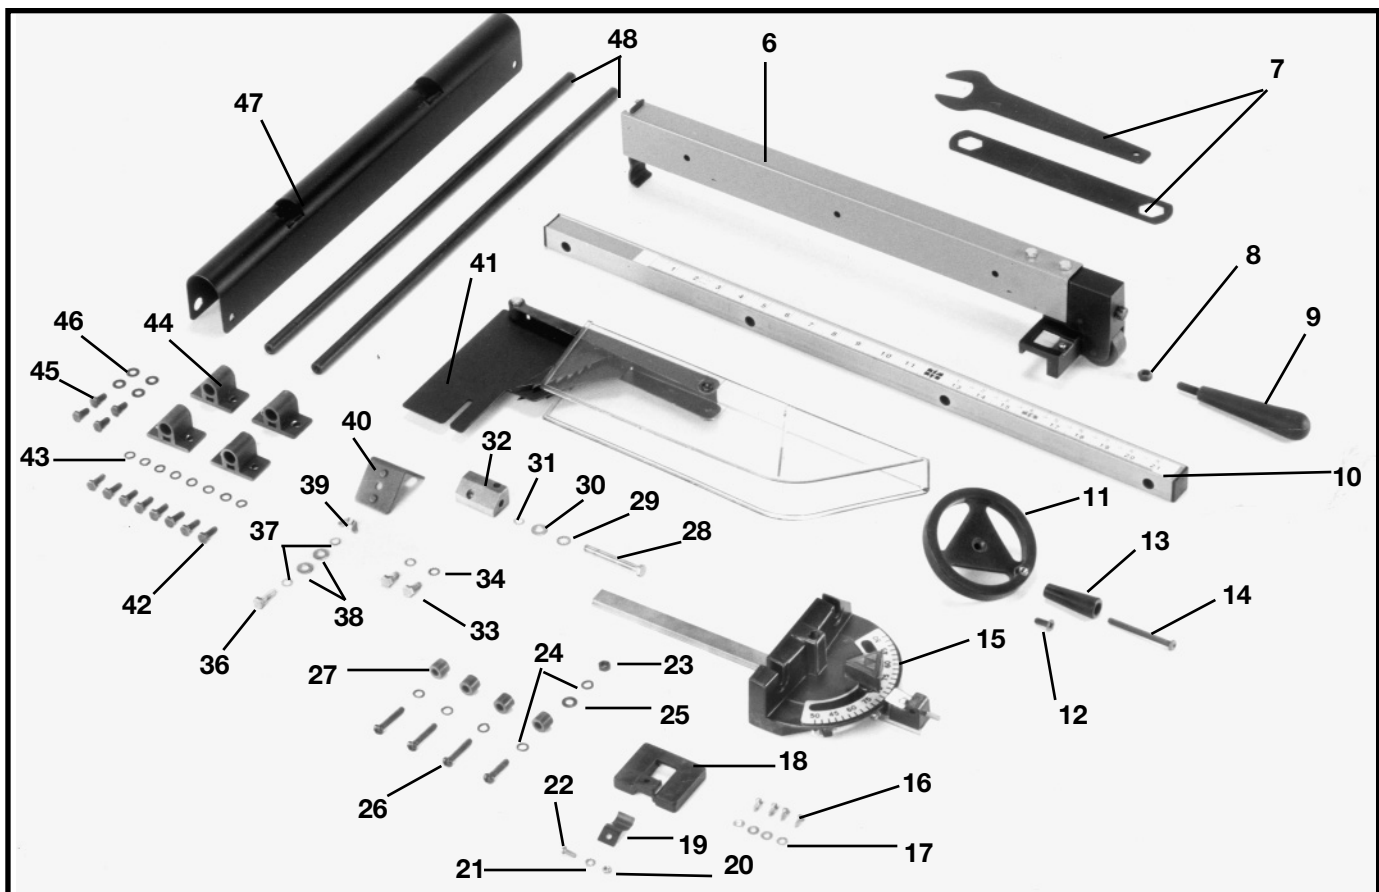
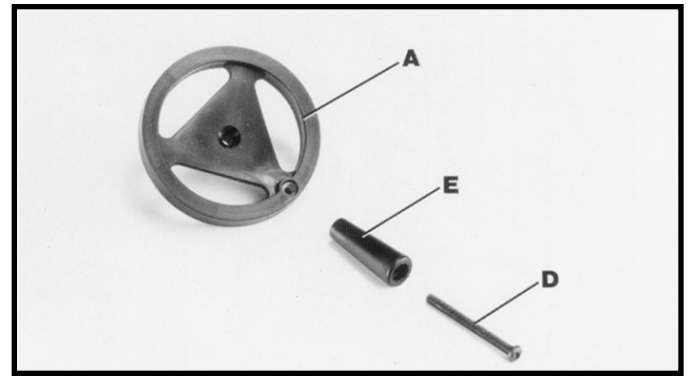

Fig. 3
Fig. 5
1. Insert M6x1x55mm cheese head screw (14) Fig. 3, through handle (E) Fig. 5 and assemble handle (E) to handwheel (A) by threading screw (D) Fig. 5 clockwise into handwheel.